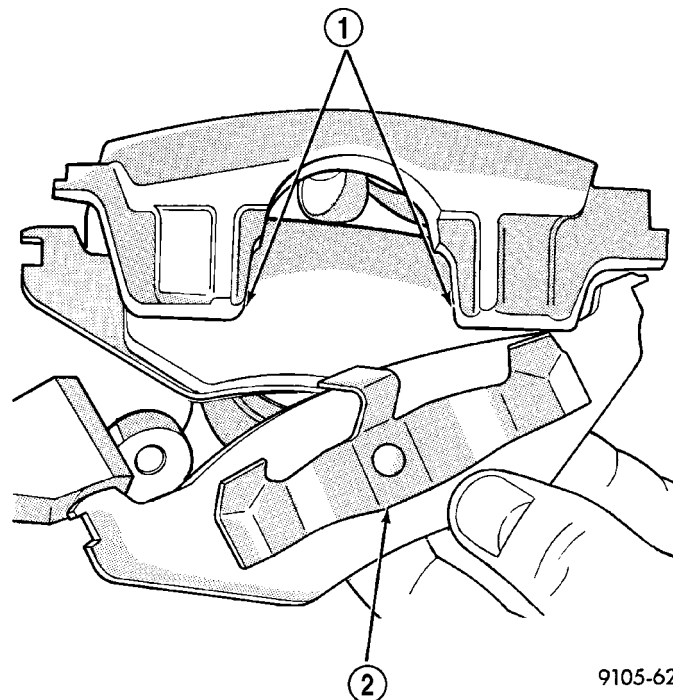

Fig. 22 Removing / Installing Outboard Brake Shoe
(7) Remove outboard brake shoe, by prying brake shoe retaining clip over raised area on caliper and sliding the shoe off the caliper (Fig. 22).
- (6) Slide the new outboard brake shoe assembly onto the caliper assembly (Fig. 22).